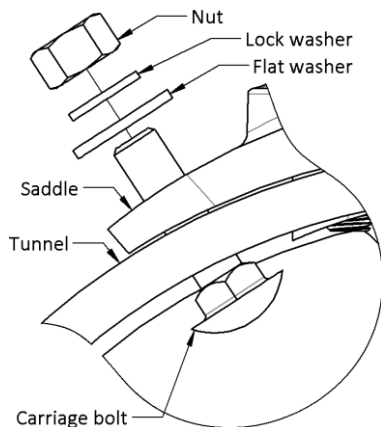

Figure 13 - Tube mounting hardware orientation.
1. Replace the tube onto the thruster and loosely refasten in six places. The heads of the carriage should be on the inside of the tunnel (see Figure 13 below).